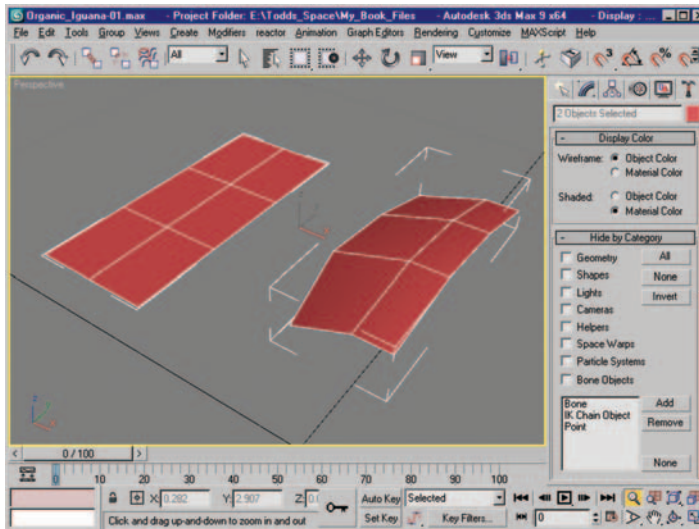

Figure 9.2 Edge placement and spacing adjusted to form an arc.
2. Move your edges to create a slight arc shape to your plane as seen in Figure 9.2. You should also adjust the spacing slightly to match the configuration seen in the screen capture.